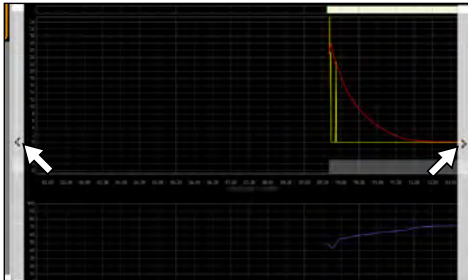

*Fig. 8*
- ▶ To zoom in on a certain section, click and drag with the left mouse button to draw a rectangle over the section you want to see (Fig. 8). If the selection is shown in red, the section is too small to be shown. In this case, make the rectangle larger until its colour changes to light grey.